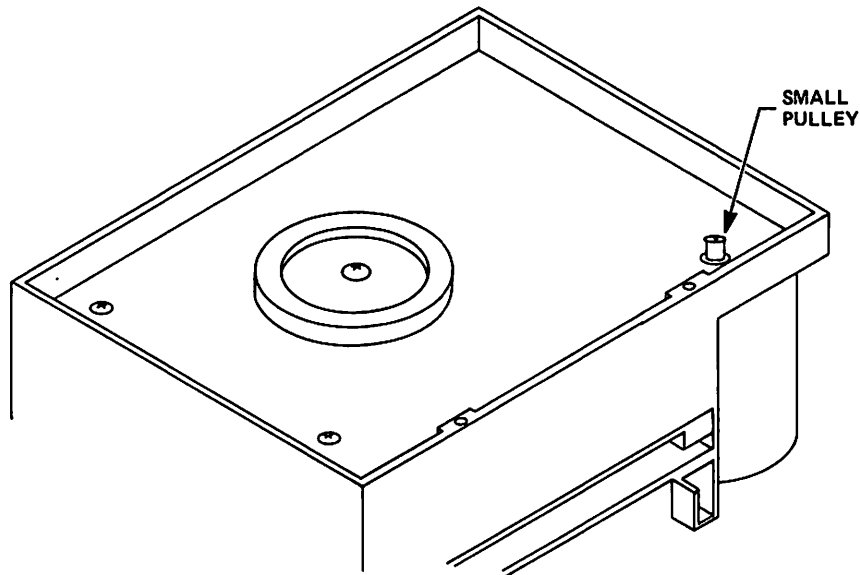

Figure 5-19
- 5.10.7 Insert the pulley of the new Drive Motor Assembly through the bottom of the chassis (see Figure 5-19).